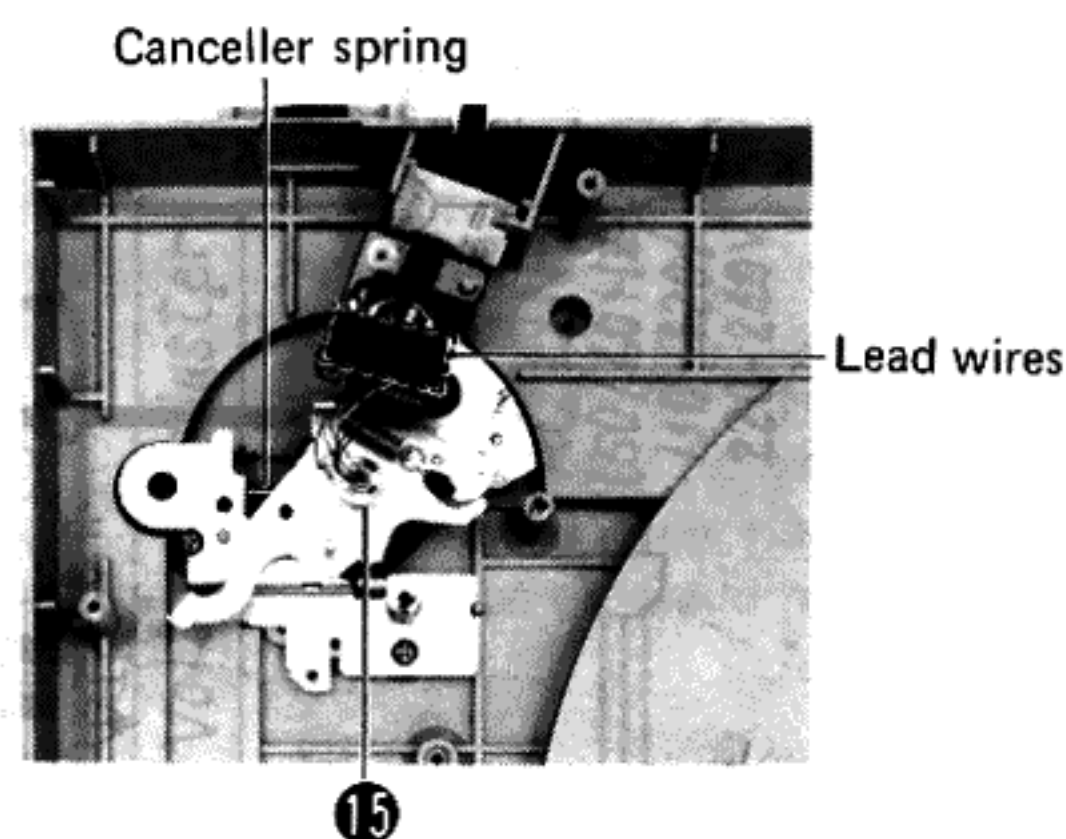

Fig. 3
2. Disconnect the soldered five lead wires from tonearm. (See Fig. 3)
3. Loosen the PU fixing plate setscrew ⑮ with a hexagon wrench, and remove the canceller spring from the PU fixing plate. (See Fig. 3)